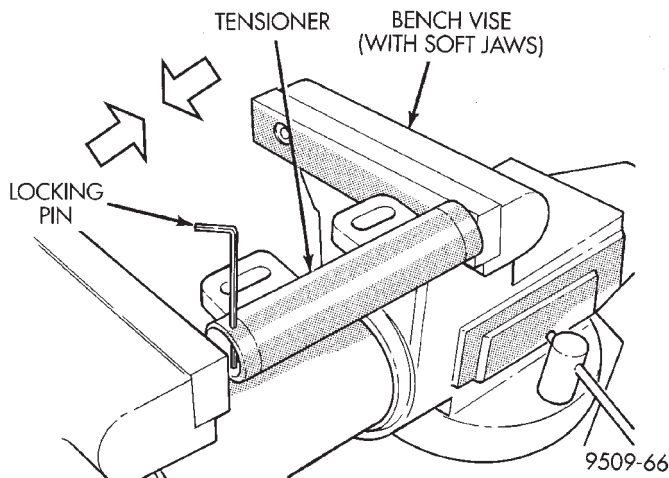

Fig. 47 Compressing Timing Belt Tensioner
(1) When tensioner is removed from the engine it is necessary to compress the plunger into the tensioner body.
(2) Place the tensioner into a vise equipped with soft jaws and slowly compress the plunger (Fig. 47).